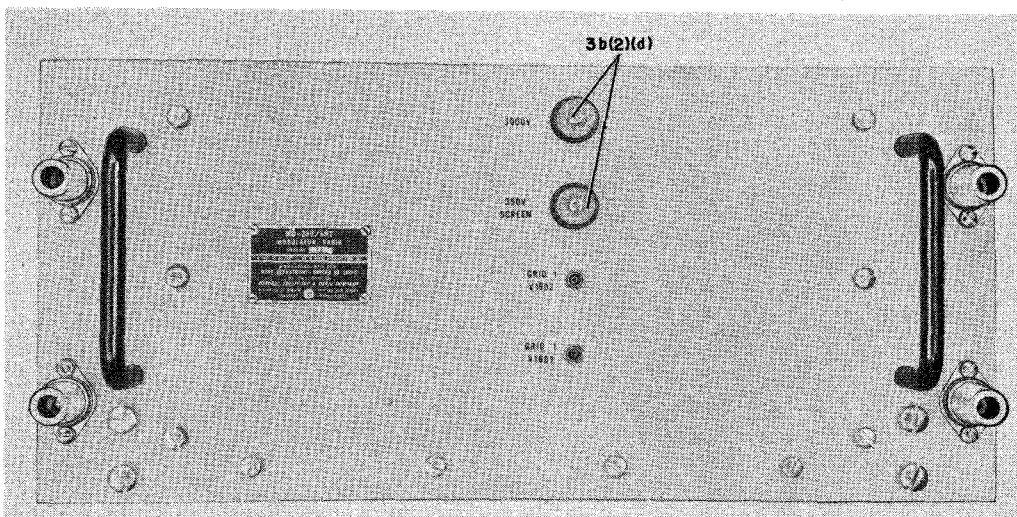

Figure 4-9. Radio Modulator MD-230/SRT (High Level Radio Modulator, HLRM), Front Panel Controls and Indicators
g. RADIO MODULATOR MD-230/SRT (HIGH LEVEL RADIO MODULATOR).—The high level radio modulator (HLRM) (figure 4-9) is a unit of the transmitter bay for AN/SRT-15 and 16 radio transmitting sets. There are two indicator lights and two test points on this unit. The upper indicator light, marked 3000 V, comes on when the +2,400/+3,000-volt supply in the high voltage power supply is energized, and the plate voltage is applied to the final stage of the RFA. It will not light during 100-watt operation. The 350 V SCREEN indicator light comes on when the press-to-talk button is depressed during phone operation. The two test points are used in maintenance operations to check grid voltage on the two amplifier tubes in this unit.